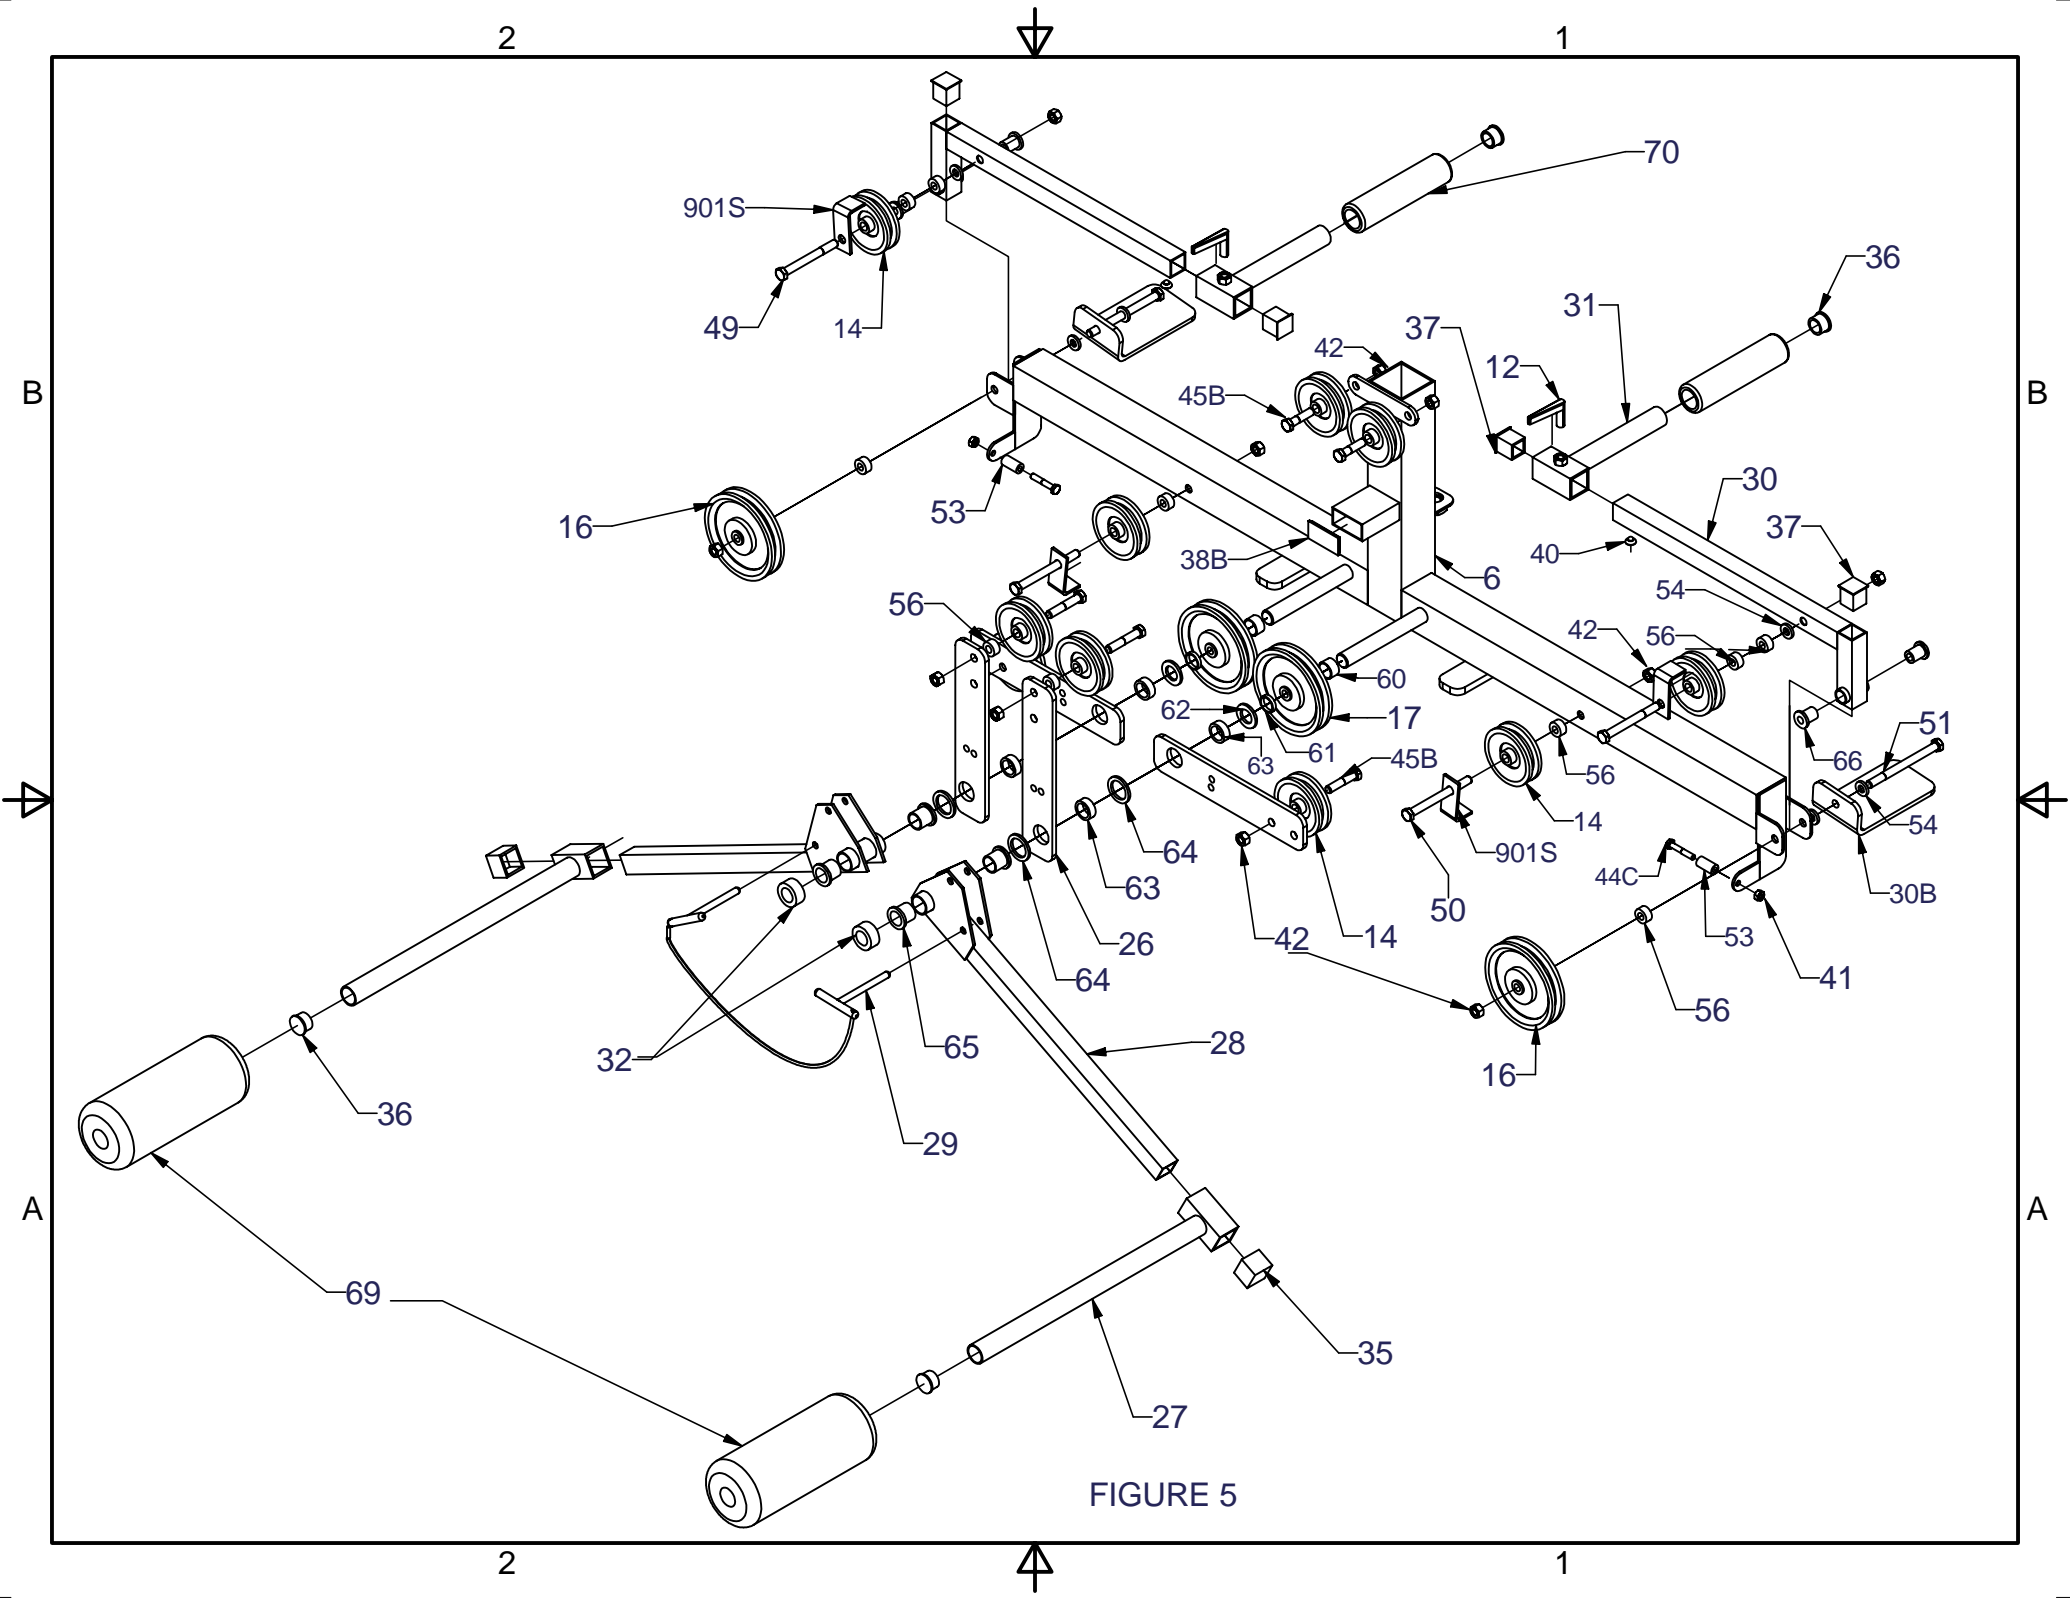

FIGURE 5
C: Deltoid/Lat Assembly (Figures 5)
2. Install the Swing Plates (26). There are 4 identical Swing Plates (26), 2 will be mounted horizontally, and 2 will be mounted vertically. Carefully follow the steps below:
- a. Slide one Spacer (61) over each shaft and push up against each 4 1/2” Pulley (17). Slide Spacer (62) over each shaft and Push up against Spacer (61).
- b. Slide Bronze Bearing (63) over each shaft and push up against Spacer (62).
- c. Attach one Pulley (14) to each Horizontal Swing Plate pair (26) with Spacer (54) between Pulley and Plate using a 3/8” Hex Bolt (45b) and Nut (42).
- d. Slide one Horizontal Swing Plate (26) over each Bronze bearing (63) and push up against Spacer (62). Swing Plates will now pivot on Bearing (63). They should rest in position on the stop.
- e. Slide Spacer (64) over each shaft and push it up against Horizontal Swing Plate (26).
- f. Attach one Pulley (14) to each Vertical Swing Plate pair (26) with Spacer (56) between Pulley and Plates. Use 3/8 Hex Bolt (47) and Nut (42).
- g. Slide one pair of Vertical Swing Plates (26) over each Spacer (63) and push up against the Spacer (64). The Swing Plates should now pivot on Bearing (63) and should rest in a vertical position against stop.
3. Insert Bearings (65) into tubes on Deltoid/Lat Arms (27). Slide Deltoid/Lat Arm (27) over each shaft and push up against vertical Swing Plate (26). Insert T-pin (29) through lower hole of Pin Bracket and into hole in Horizontal Swing Plate (26). This will allow Deltoid/Lat Arm (27) to rest in sloping down position.
4. Slide Shaft Collar (32) over end of each shaft and tighten the set screw with a 5/32 Allen wrench. This will secure above assembly.
5. Mount 4 more Pulleys (14) onto Deltoid/Lat Slider (6) as shown in Figure 5, using Spacers (54, 56) and Hex Bolts (49, 50).
6. Slide Deltoid/Lat Handle (28) onto Deltoid/Lat Arm (27).
7. Push Cap (35) onto end of each Deltoid/Lat Arm (27).
D: Curl Assembly (Figure 5)
1. Attach Pulley (14) to Curl Arm (30) with Spacers (56 & 54) as shown in Figure 5.
2. Insert Bearings (66) into tube on Curl Arm (30). Mount Curl Arm (30), Pulley (16), Spacer (56) and Curl Elbow
3. Pivot Bracket (30.b.) with Spacers (54) onto Deltoid/Lat Slider (6) using 3/8 Hex Bolt (51) and Nut (42) as shown.